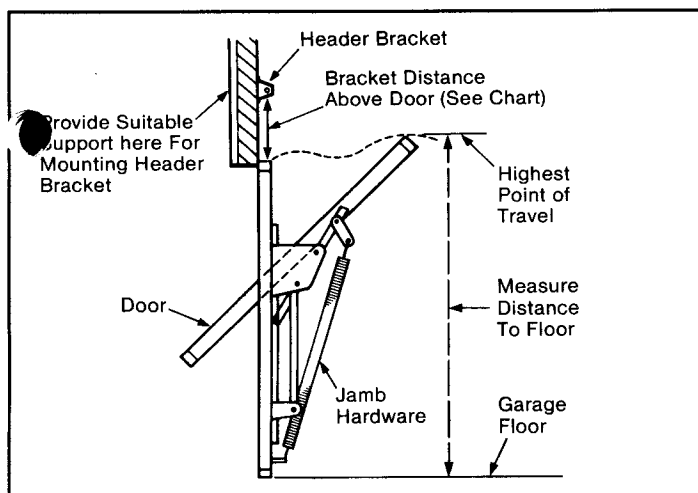

Figure 23
Step 57: Establish the high-rise point of the door. That is its highest point of travel when it opens or closes (see Figure 23). To establish this point, open the door and measure the distance between its highest point of travel and the floor. Next, measure the height of the door. The difference is the door rise.